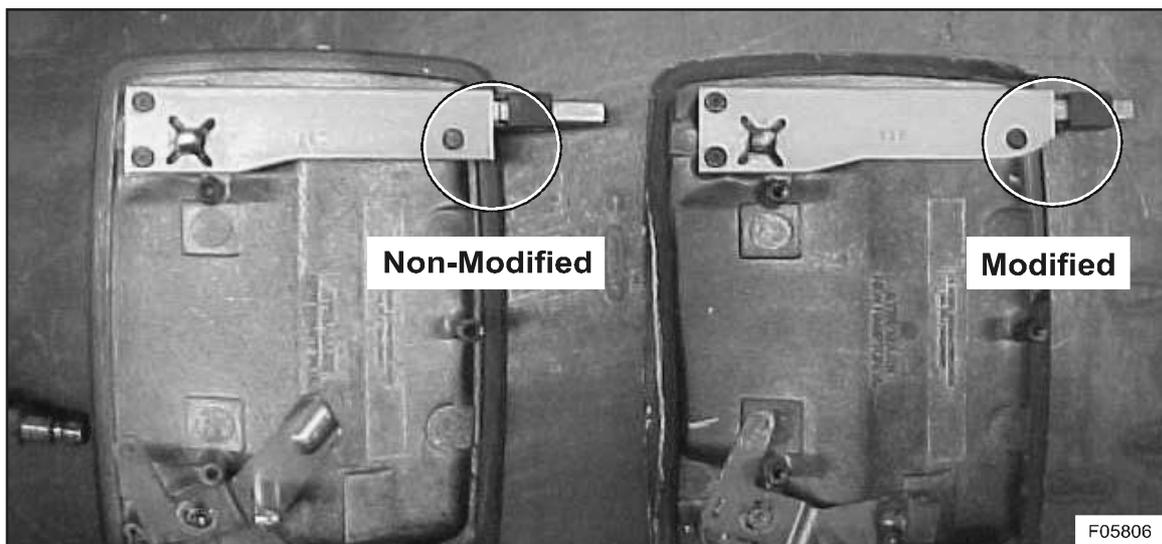

Figure 20: Modification of outside housing upper bracket
- 1) Using the new outside housing assembly, grind the narrow end of the upper bracket to a taper as shown in Figure 20. Use the old handle as a reference.